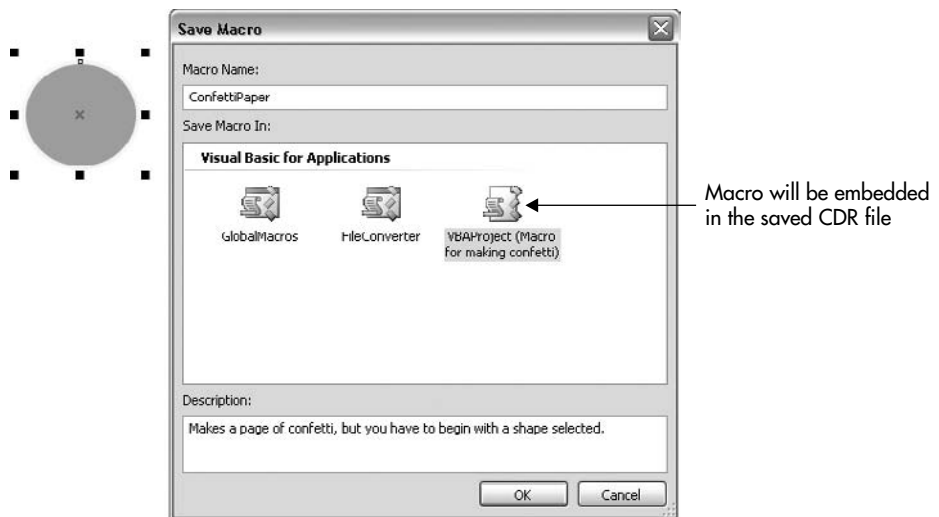

FIGURE 30-2 Click the icon for where you want to save the macro you'll record, and write project notes for yourself and others.
4. Click on the red Start Recording button on the Macros Toolbar to open the Save Macro dialog, as shown in Figure 30-2.